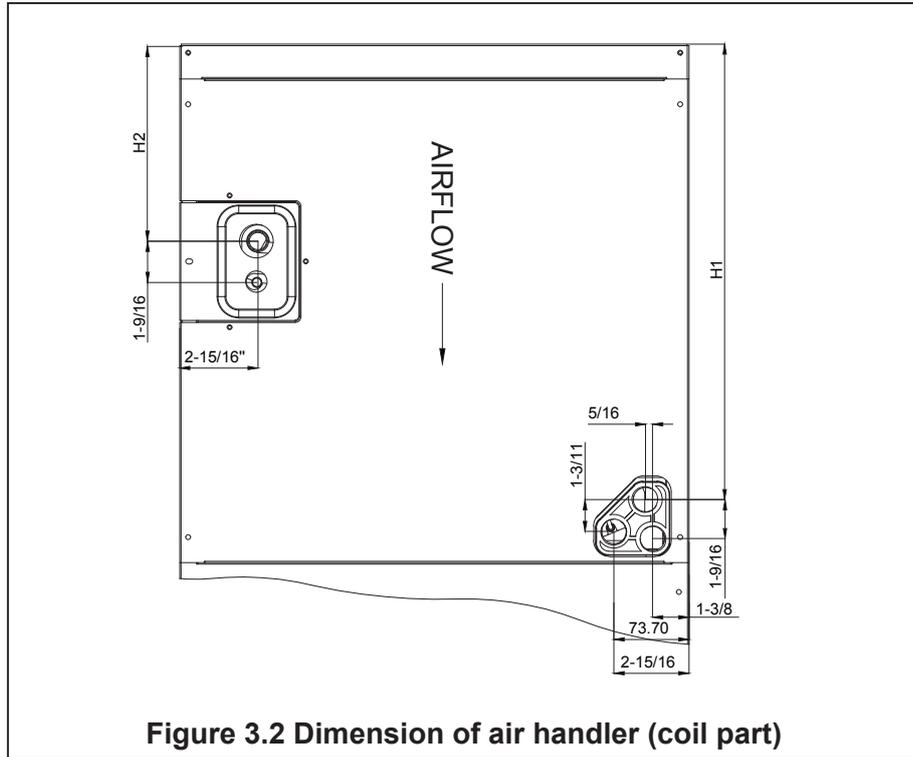

Figure 3.2 Dimension of air handler (coil part)
The vertical upward airflow position can be converted into the vertical downward airflow position. Remove the coil (evaporator) access panel and coil, and reinstall it by rotating 180 ° from the original position. See Figure 3.2 and 3.3.
- By removing the indoor coil assembly and reinstalling the coil, the vertical upflow position can be converted into a horizontal left position, See Figure 3.2.
- Re-install the indoor coil by rotating 180° from the original position. Ensure that the fixing groove is fully engaged with the coil guide rail. See figs. 3.2 and 3.3.